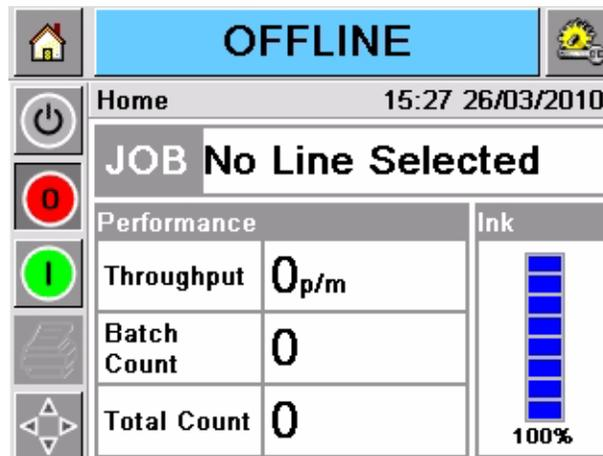

Figure 5-35: Select Job
- 1 Select *Job* from the *Home* page (Figure 5-35).